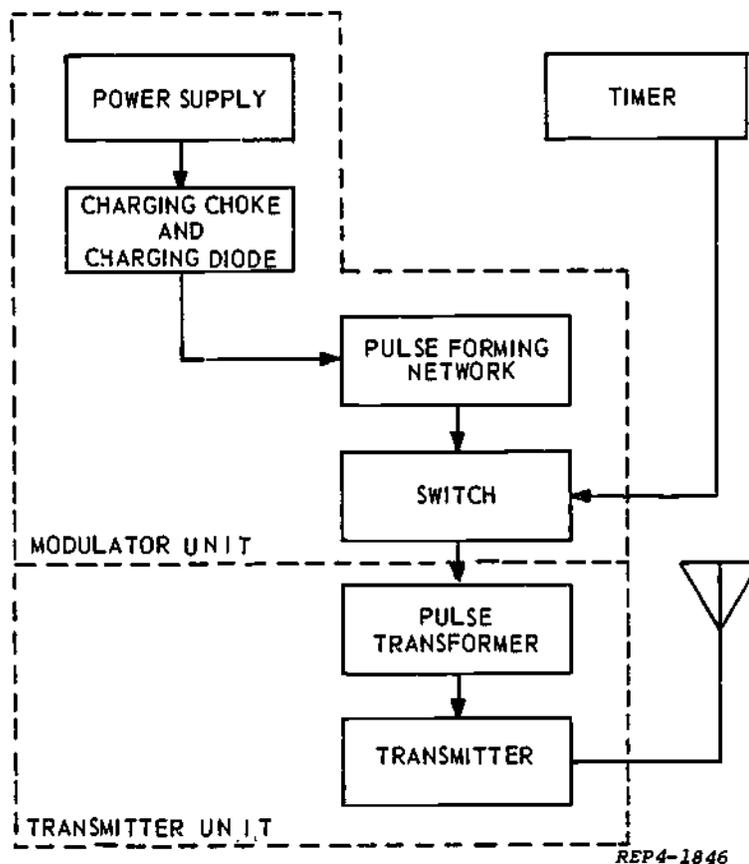

Figure 3
6. From the labeled block diagram in figure 3 and the list of statements that describes each block of a pulse transmitter, match each block with the proper statement.